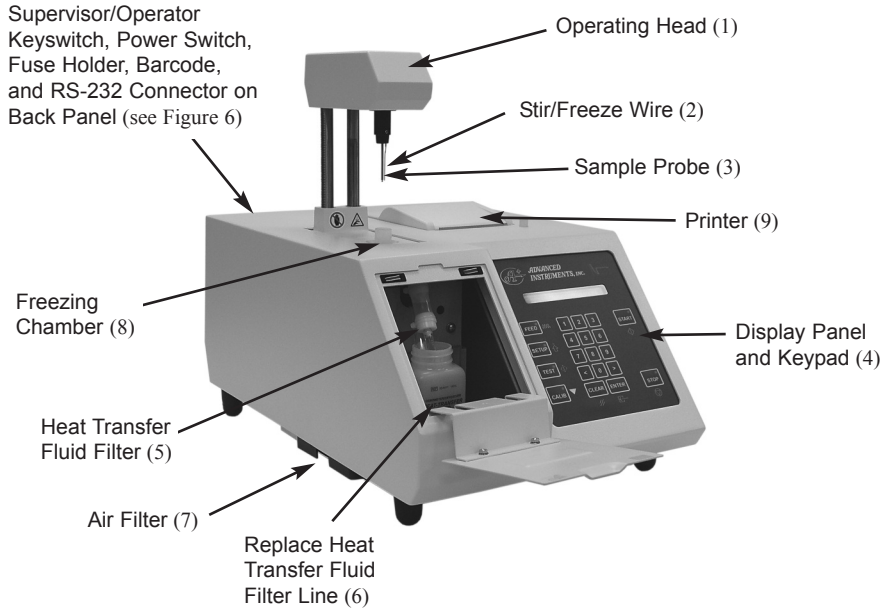

Figure 4: Model 3250 Components and Controls
Operating head (Figure 4, Item 1)
Freezing chamber (Figure 4, Item 8)
Display panel (Figure 4, Item 4)
Keypad (Figure 4, Item 4)
Printer (Figure 4, Item 9)
1. Remove the sample tube from the freezing chamber (see Figure 4, Item 8).